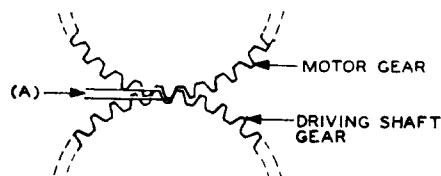

Fig. 3 - Engagement of Motor and Driving Shaft Gears
- (2) Fig. 3(A) - The teeth of the motor and driving shaft gears shall engage vertically for